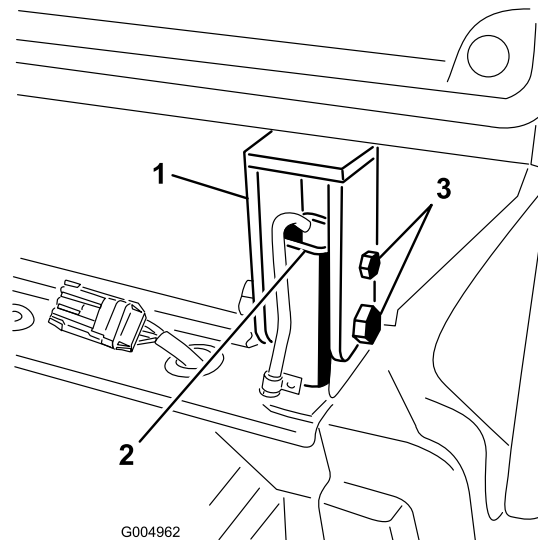

Figure 82
25. Remove the bolts and nuts securing rear cab mounts to the ROPS posts (Figure 82). Adjust the floor jack if the bolts are binding and difficult to remove.